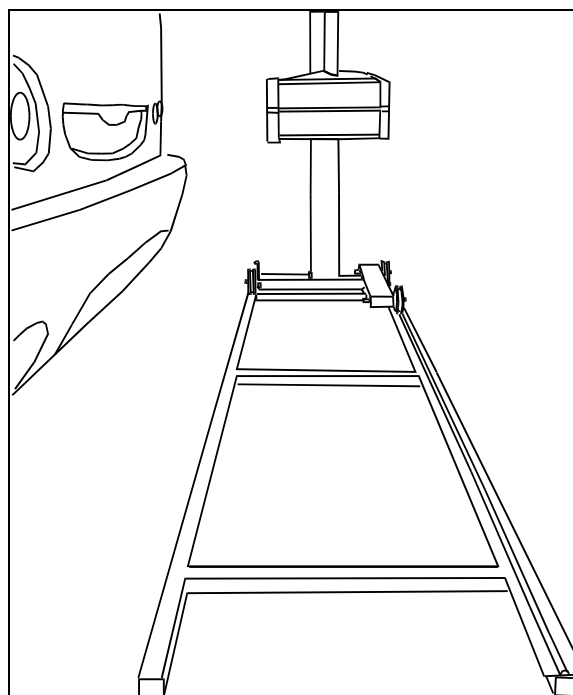

FIGURE 27: INSTALLATION OF HOOPY 100 ALIGNER
5. Install “Hoopy 100” Aligner onto support rail (Fig. 27).
3. Install “Hoopy 100” Aligner onto support rail (Fig. 27). Turn aligner ON.